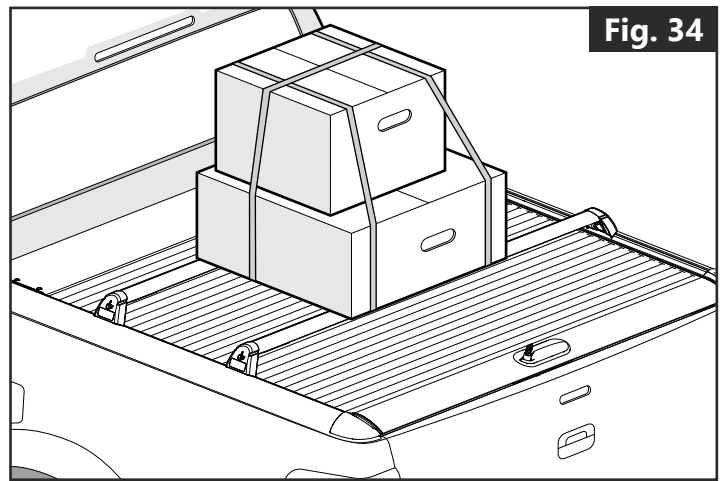

Fig. 34
- Combined load capacity of 75 Kg (including bars) (**Fig. 34**)